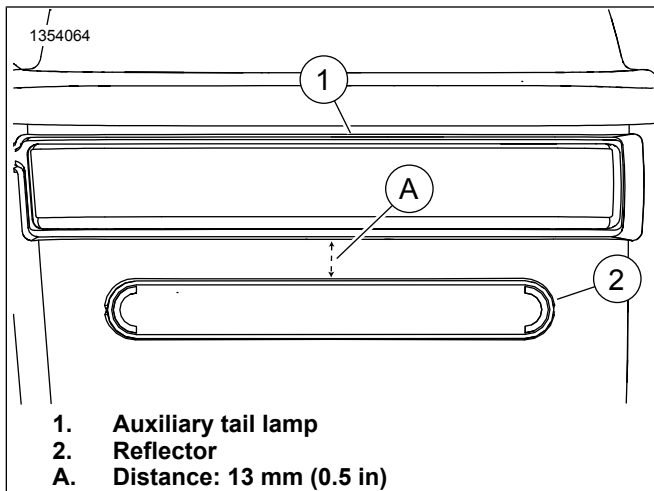

Figure 8. Reflector Placement
- b. See Figure 8. Place reflector (2) on rear of saddlebag centered and Distance: 13 mm (0.5 in) below auxiliary tail lamp (1).